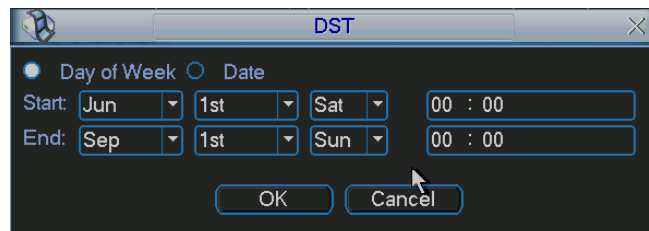
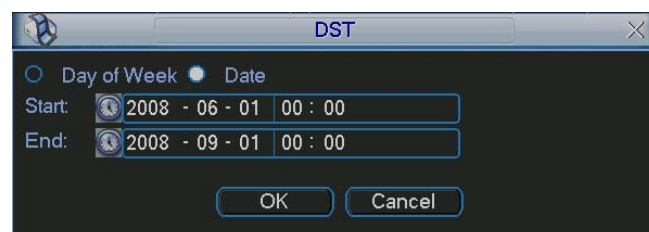

Figure 3-23
Figure 3-24
- DST: Here you can set DST time and date. Please enable DST function and then click set button. You can see an interface is shown as in Figure 3-23. Here you can set start time and end time by setting corresponding week setup. In Figure 3-23, enable date button, you can see an interface is shown as in Figure 3-24. Here you can set start time and end time by setting corresponding date setup.